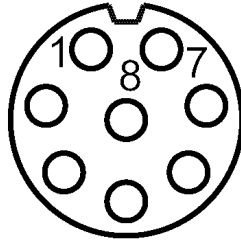

Figure A1: Connector Pin Diagram, solder-socket view
8. Solder wires and shield to connector body (3) as indicated. See **Figure A1 & Table A2**.